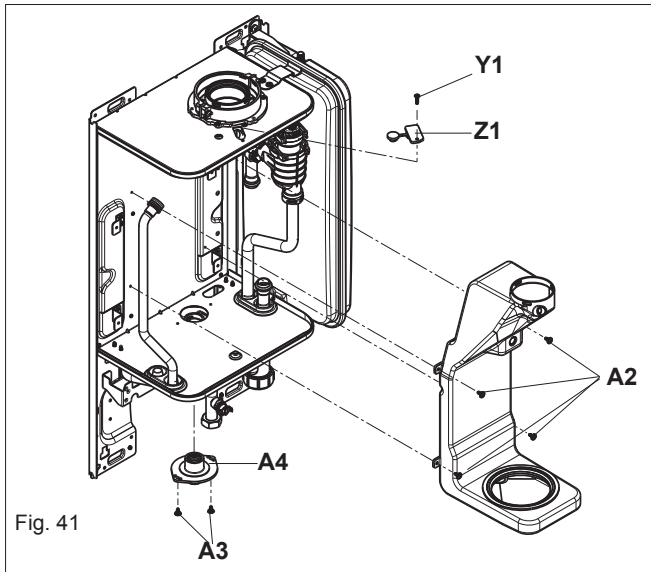

Fig. 41
6.21 FLUE COLLECTOR REMOVAL (fig. 41)
Isolate the appliance from the electrical supply and remove the appliance casing as described in 4.7.1, to gain access to the printed circuit board, locate and open the closing plug on the dash board (L2). Restore the electrical supply to the boiler and switch the boiler to the OFF mode. Locate and press the CO button (see fig. 44 pos. SW1). Press the button the number of times according the function requirement as par 7.3.1. Set the flue gas analyser to read CO₂ and insert the probe into the flue analysis test point (Y1-Z1 fig. 41).
- Insert the flue gas analyser probe into the flue gas test point (see fig. 41).